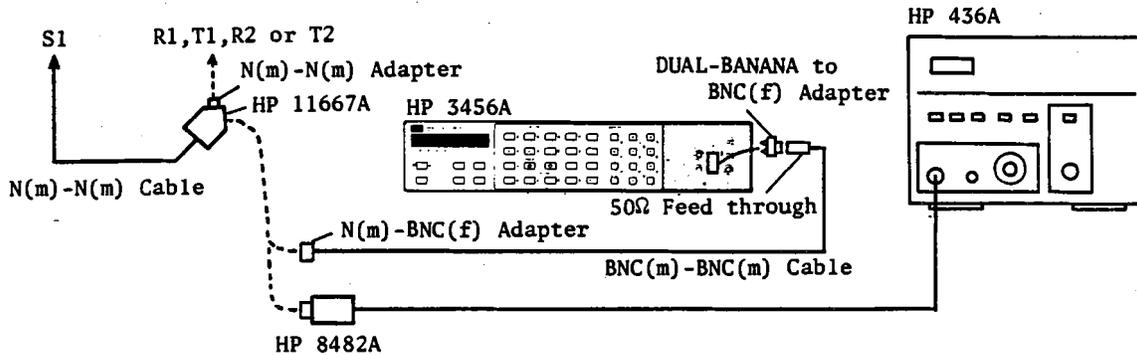

Figure 2-6. Amplitude Measurement Frequency Response Test Setup
- Configure the test equipment as shown in Figure 2-6. Use the N(m)-N(m) Adapter to connect the Power Splitter to HP 4195A INPUT R1. Connect the 50  $\Omega$  feedthrough at the Digital Voltmeter INPUT. Connect the Voltmeter input cable to the Power Splitter.